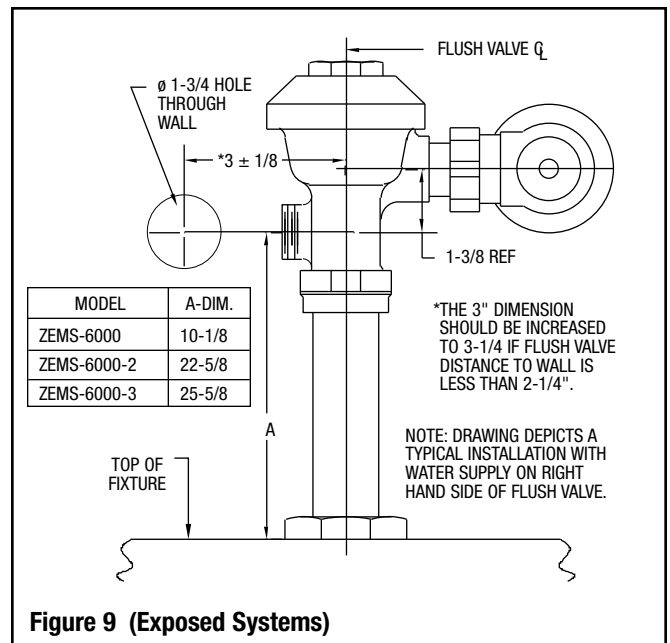

Figure 9 (Exposed Systems)
STEP 5 – Actuator Cable Installation (Figures 9 and 10)
1. Drill 1-3/4" diameter hole per Figure 9.